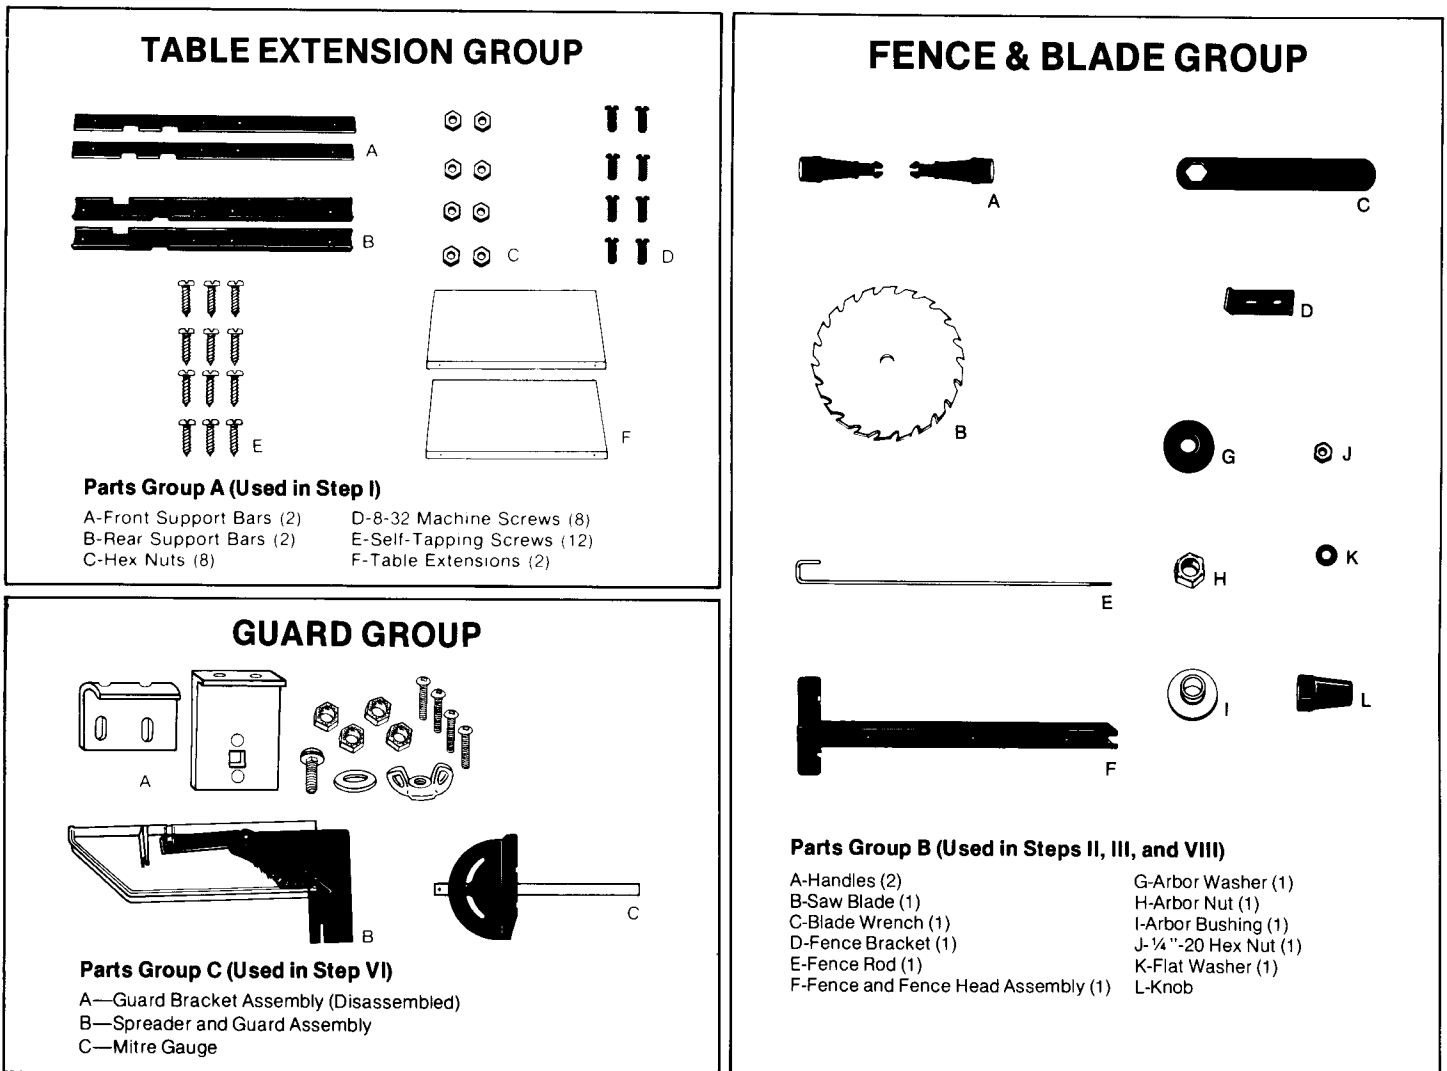
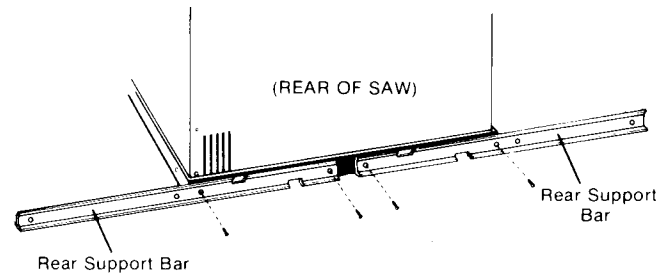

Figure 1
Figure 6
Before beginning to assemble your saw, arrange all parts (some parts in plastic bag, others are not) into the Parts Groups shown in Figure 1. This will prove most helpful when assembling your Table Saw.
Parts needed (See figure 1):
PARTS GROUP "A" (FIGURE 1) CONTAINS ALL HARDWARE FOR INSTALLING THE TABLE EXTENSIONS.
- C. Select either of the two front Support Bars. (See **figure 1**.) These are flat and exactly alike and can be installed on either side.
- F. Select the two identical Rear Support Bars (see **figure 1**) and install on the rear edge of the Table Top as shown in **figure 6**. Make sure that the raised edges of the Support Bars are facing out. (Study **figure 6**.)